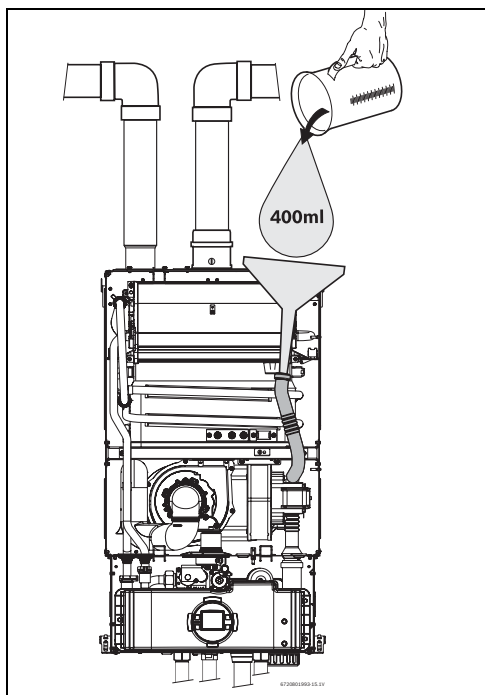

Fig. 62 Filling the condensate trap after installation.
- ▶ Fill the condensate trap by pouring approx. 14 oz. (400ml) of water into the top of the drain tube. To avoid damage to the appliance use a funnel in this operation, see Fig. 62 .